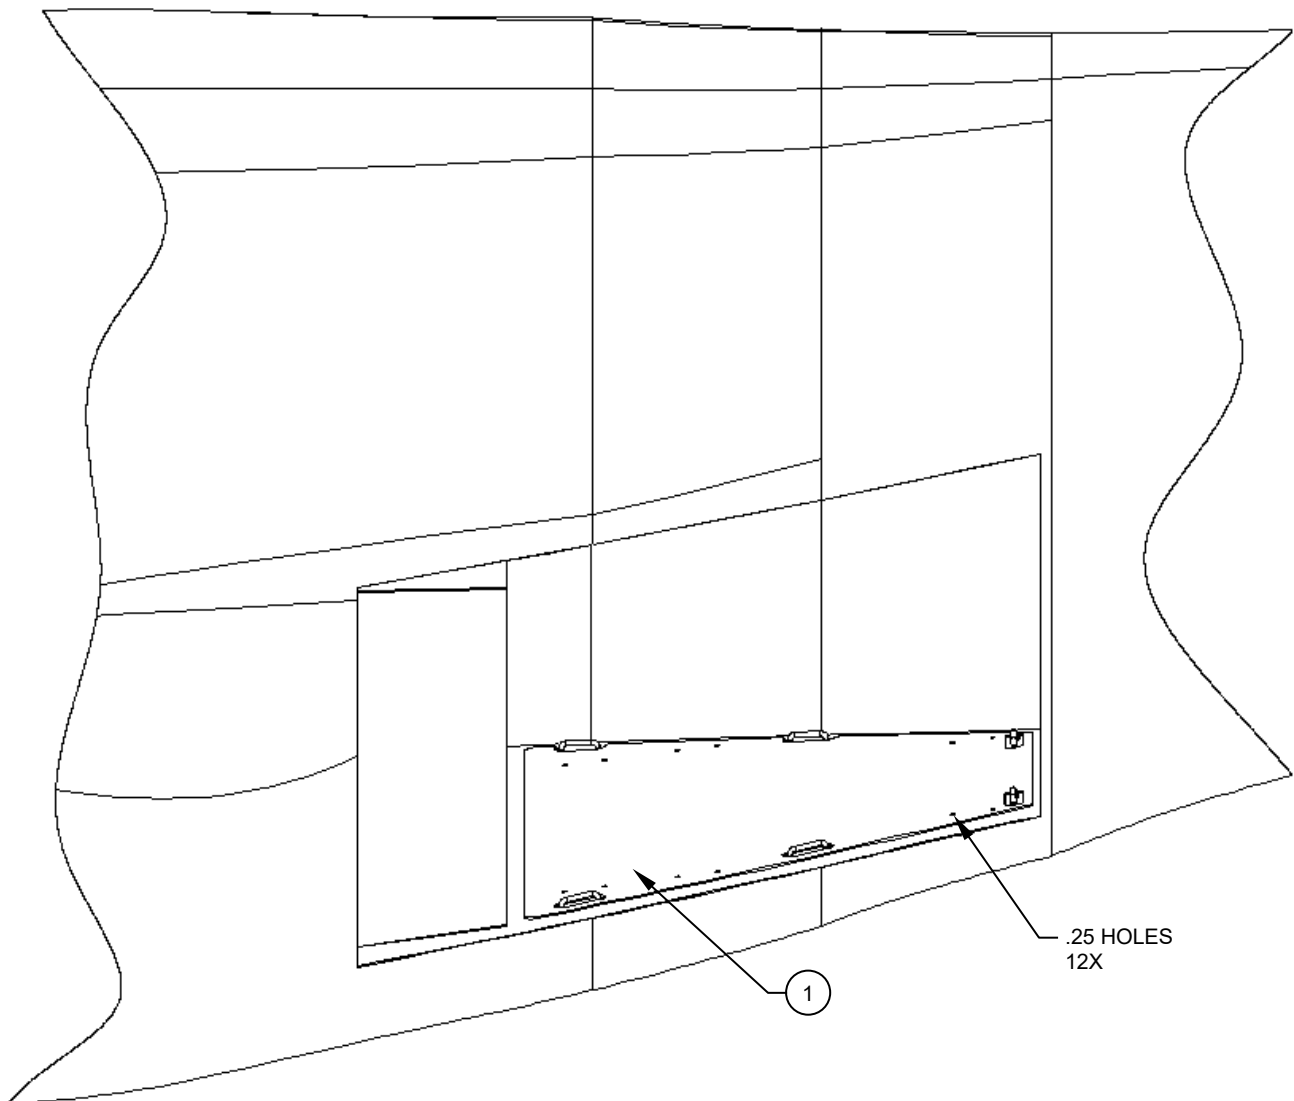

**Figure 1**
1. Gain access to the baggage compartment floor. Reference Figure 1.
2. Pre-fit the Panel, Assy (Item 1) by lining up the oval cut outs with the footman loops mounted to the floor panel. Reference Figures 1 & 2.